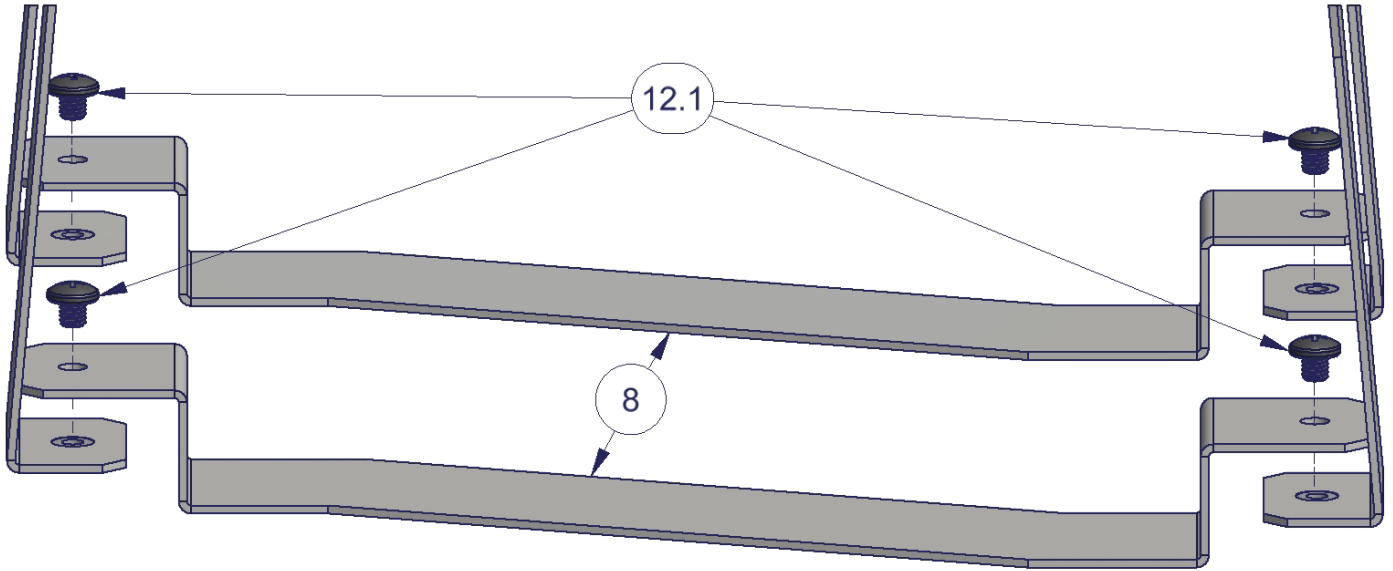

FIGURE 3
7. Attach the #7 Bottom Plates to the assembly using (4) #12.1 Screws, as shown in Figure 3.